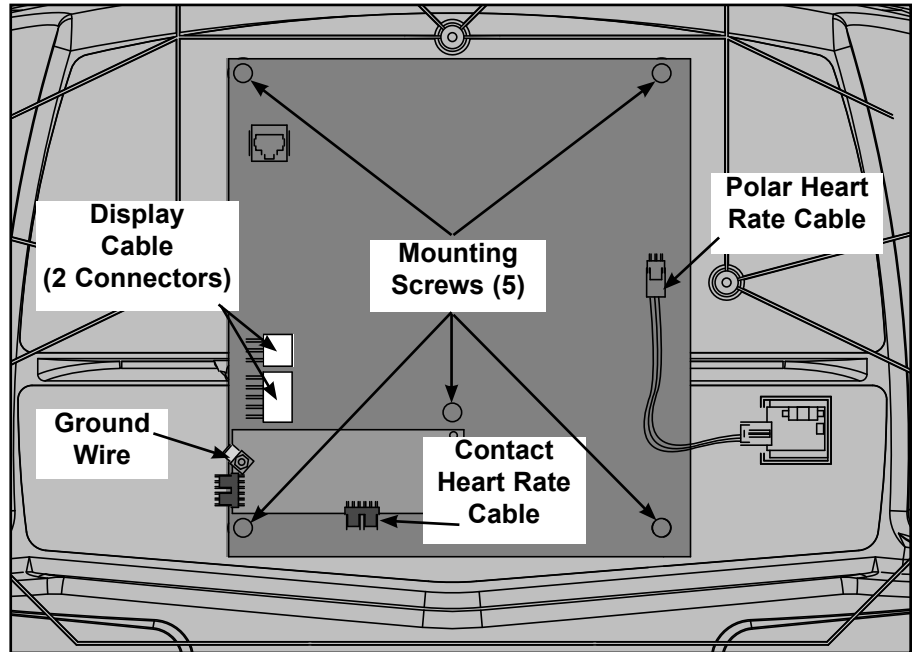

Figure 26
- D. Gently tilt the console assembly forward and disconnect these cables from the display board: the display cable (2 connectors), the contact heart rate cable, the Polar cable and the ground wire. See Figure 26.
- A. Using a Phillips screwdriver, remove the five screws that hold the display board to the console. See Figure 26.
- Connect these cables into the display board: the display cable (2 connectors), the contact heart rate cable, the Polar cable and the ground wire. See Figure 26. (425T skip to Step 8.)
- Using a Phillips screw driver, install the two screws securing the back cover to the console assembly. See Figure 26.
- A. Connect the contact heart rate connector into the bottom of the heart rate board. See Figure 26.